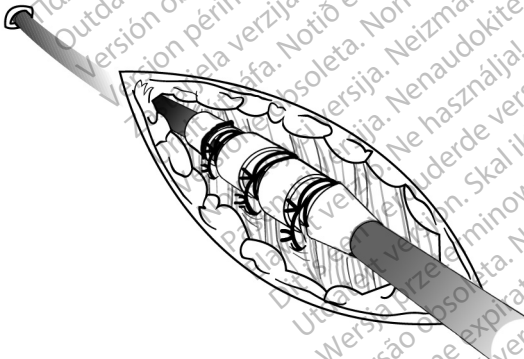

Figure 9. Example of suture sleeve, percutaneous implant technique
1. Peel back the introducer sheath and slide the suture sleeve deep into the tissue (Figure 9 Example of suture sleeve, percutaneous implant technique on page 25).